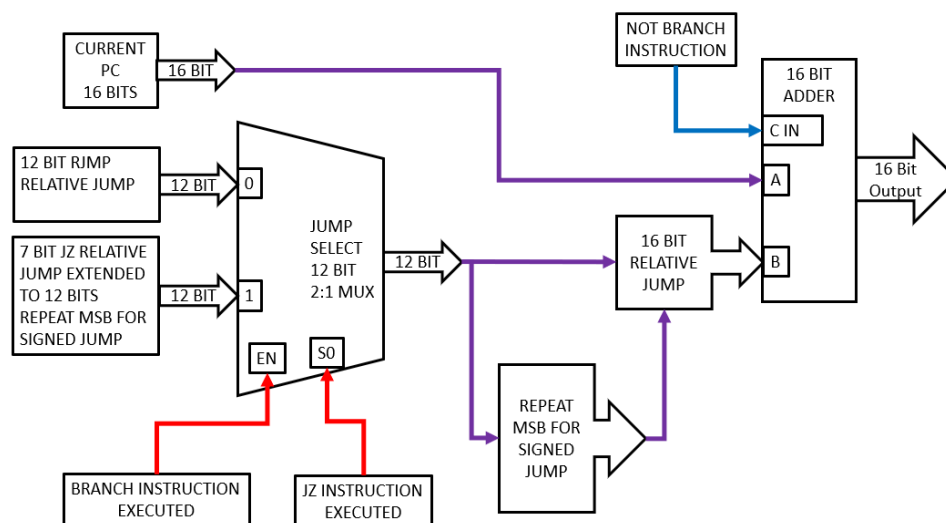

Figure 7: PC ALU block diagram.
The value of the next PC address is controlled by the PC ALU. The PC ALU is enabled only when the AVR processor is not in the idle state. Figure 7 shows the block diagram for the PC ALU.
The PC ALU is used to manipulate the PC for non-branch instructions, which require the PC to be incremented each clock cycle and for two unique branch instructions: RJMP, which allows for a 12-bit relative and unconditional jump, and BRBS(Z), which allows for a 7-bit relative and conditional (if Z flag is set) jump. The PC ALU is composed of a 16-bit ripple adder and a Jump Selection Block (JSB) as seen in Figure 7. The 16-bit ripple adder is used to add the current PC address with the data from the JSB to calculate the next PC address. The JSB is a 12-bit 2:1 multiplexer with an enable to route the necessary jump data. The enable (EN) of the JSB is controlled by the branch signal, which is generated by the CU, to determine if a branch instruction is decoded. If a branch instruction is not decoded, the output of the JSB is zeros. The 16-bit adder increments the PC, using carry in (C_IN) if the branch instruction is not decoded.